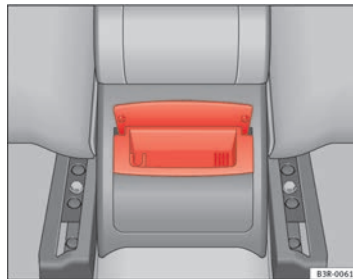

Fig. 134 Rear ashtray ▶
- Take hold of the lid ⇒ page 154, fig. 134 and lift out the ashtray.